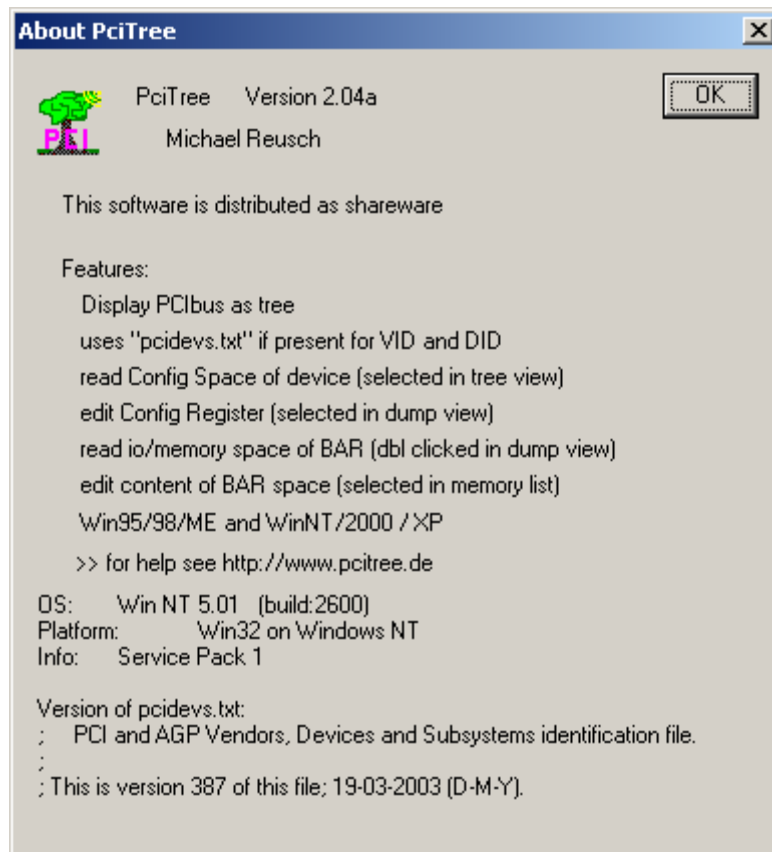

Figure 1-28: About the PciTree Tool
1. Download the free PciTree tool (Figure 1-28) from <http://www.pcitree.de/download.html>